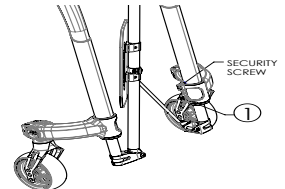

Fig. 24.2
- Loosen bottom 5mm Hex screws (1) on the right and left caster mount clamps (Fig 24.2)
- Tighten the screws (1) firmly.